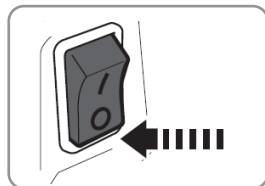

Fig. 13
2. Set the switch to the "O" (STOP) position (Fig. 13). If the engine stops, release the stop switch – it returns to the operating position.